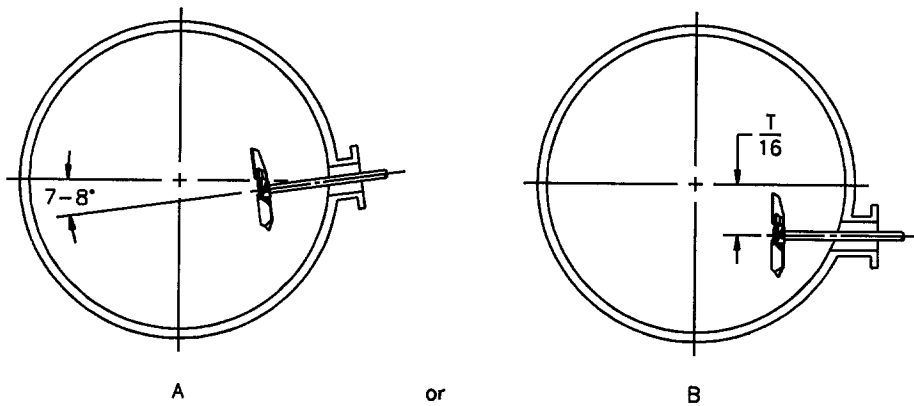

Figure 1: Nozzle Orientation
Unless otherwise specified, the agitator nozzle should be oriented as shown in *Figure 1*. The shaft centerline should be located one (1) impeller diameter from the tank bottom. The agitator nozzle should be level or corrected to within $\pm 1^\circ$ before proceeding.